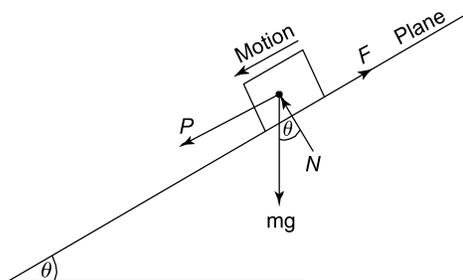

Figure 16.7
In this case, the frictional force F acts up the plane, opposite to the direction of motion of the plane, as shown in Figure 16.7.
Problem 8. If the mass of Problem 7 were subjected to the force P , which acts parallel to and down the plane, as shown in Figure 16.7, determine the value of P to just move the body.
6. For a mass of 50 kg, just moving down an inclined plane, as shown in Figure 16.7, what would be the value of P , given that $\theta = 20^\circ$ and $\mu = 0.4$? [$P = 16.6 \text{ N}$]